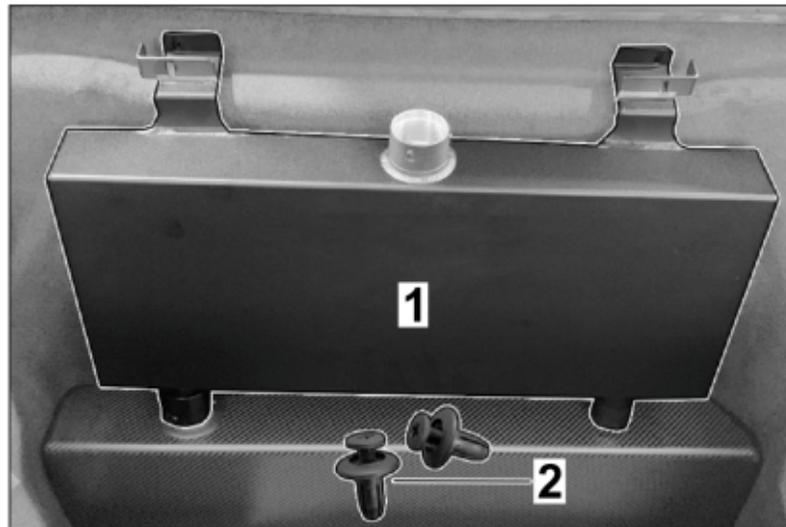

Figure 74
10 installing additional water tank (⇒ *Figure 74 -1-*)
10.4.7 Press water tank (new) holder at the top of the bulkhead and secure it to the bulkhead with stoppers (2 pcs, scope of delivery) (⇒ Figure 74).